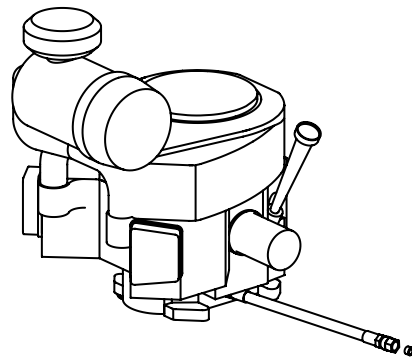

Figure 30
2. Locate the oil drain hose on the engine. See Figure 30.
5. While holding the free end of the oil drain hose over the oil collection container, unscrew the square-head hose plug from the end of the hose. See Figure 30 on page 22. Drain the engine oil into the collection container.